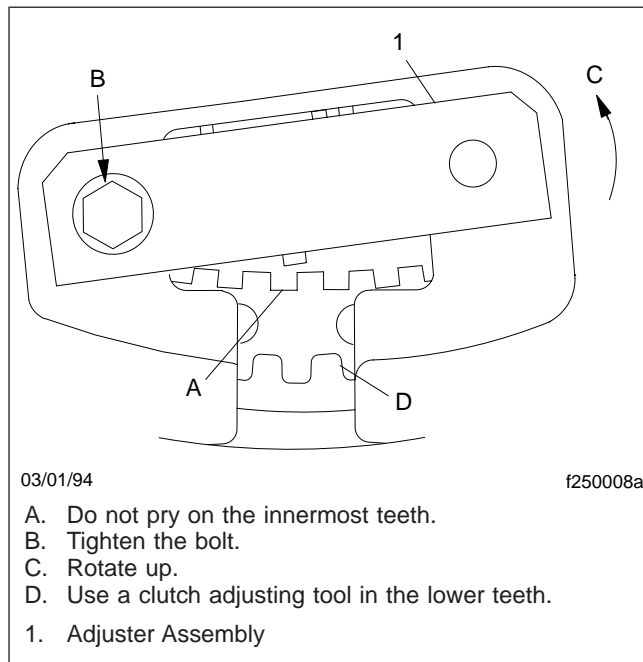

Fig. 13, Rotate the Adjuster Assembly
3. To allow manual adjustment, rotate the adjuster assembly upward. See Fig. 13. This will disengage the adjuster worm gear from the adjusting ring. Hold the adjuster assembly disengaged, and tighten the left-side bolt.
Do not pry on the innermost gear teeth of the adjusting ring. See Fig. 13. Doing so could damage the teeth, and prevent the clutch from self-adjusting.